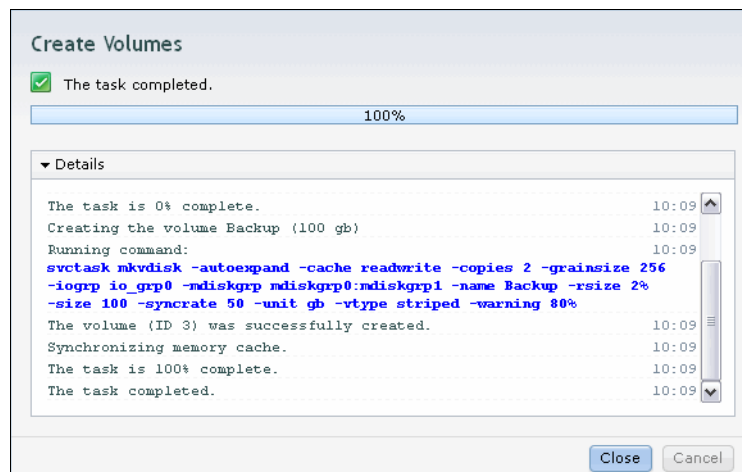

Figure 5-10 Create a thin-provisioned volume
4. Click **Create and Map to Host** and the creation task completes, as shown in Figure 5-10.